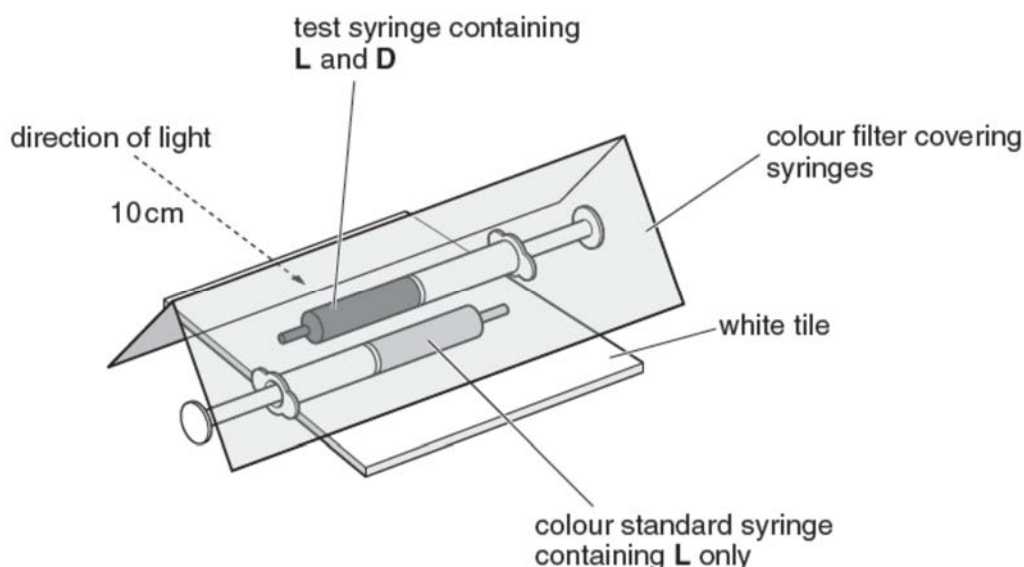

Fig. 1.2
The next steps have to be carried out very quickly one after another, so read steps 8–15 and refer to Fig. 1.2 before proceeding.
10. Immediately cover both syringes with the purple filter, **P**, as shown in Fig. 1.2 on page 4.